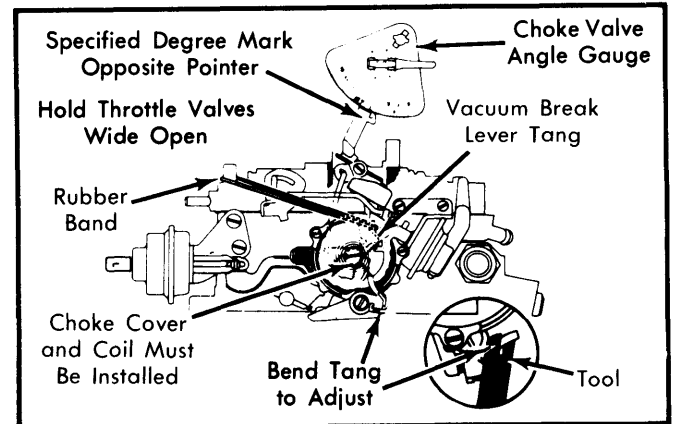

Fig. 10 Adjusting Choke Unloader
1) If removed, install choke thermostatic cover and coil assembly on housing, using special rivets in service kit. Hold throttle valves wide open. See Fig. 10.